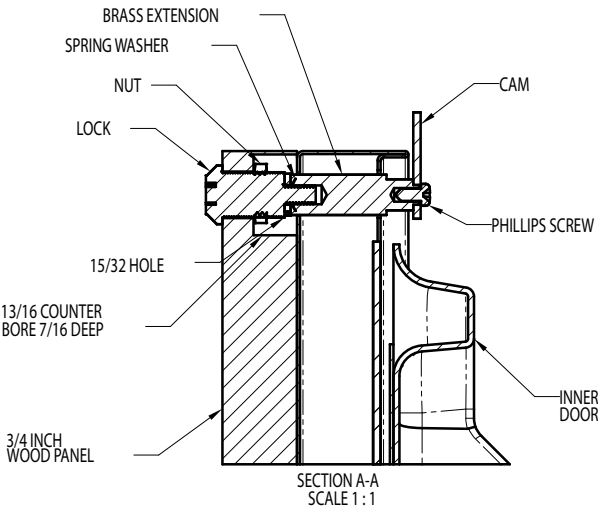

Figure 7
Locate and mark with a pencil the location of the lock hole on the overlay panel, this is the hole in the top corner of the handle side of the door. Remove the clamp and remove the overlay panel from the door. On the backside of the panel where you marked the lock location drill a 13/16" (20.5mm) diameter counterbore 7/16" (11.0mm) deep into the overlay panel. Drill a 15/32" (12.0mm) diameter hole through the overlay panel centered on the counterbore being careful not to splinter the wood on the face side of the panel. (See Figure 7).
Two (2) lock extensions are supplied with the lock. Use the longer extension for a 3/4" thick overlay panel and the shorter one for a 5/8" thick panel. Assemble the lock extension, cam stop washer, spring washer, and set screw to the lock as shown in Figure 7 and 8.